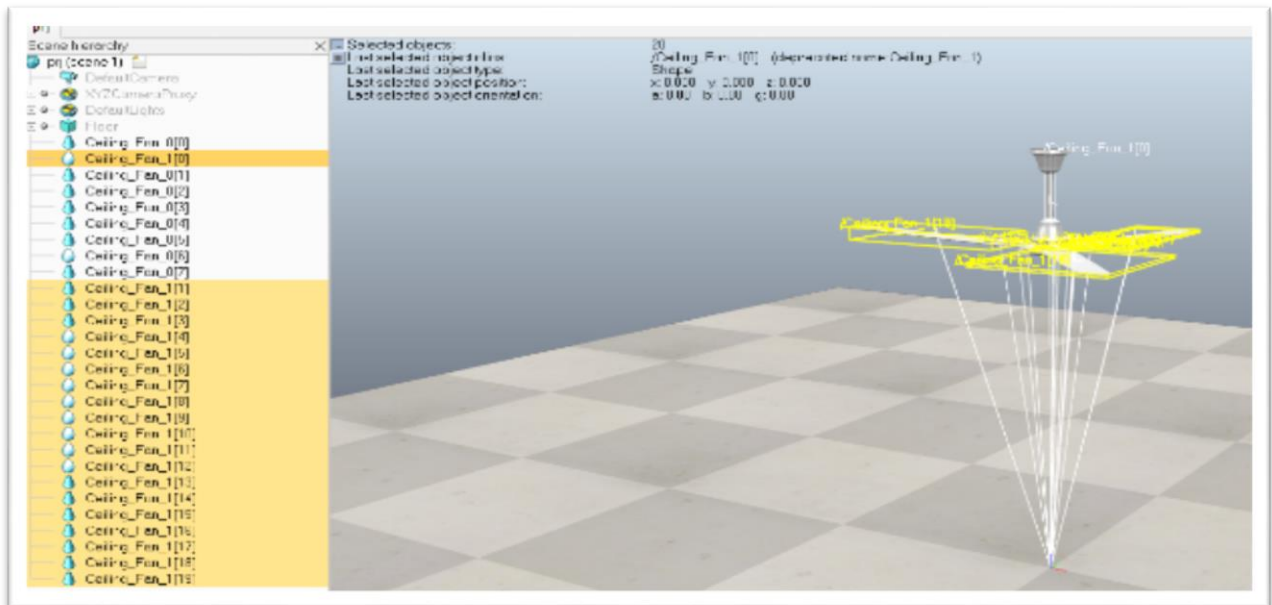

Fig. 2: the fan object is splitted into multiple objects showing inside the IDE [source: Author’s]
- 7) Select the object "**Ceiling_Fan_0**" and "**Ceiling_Fan_1**" from the scene hierarchy and apply the command “**divide.**” It will divide into several objects depicted in Figure 2.